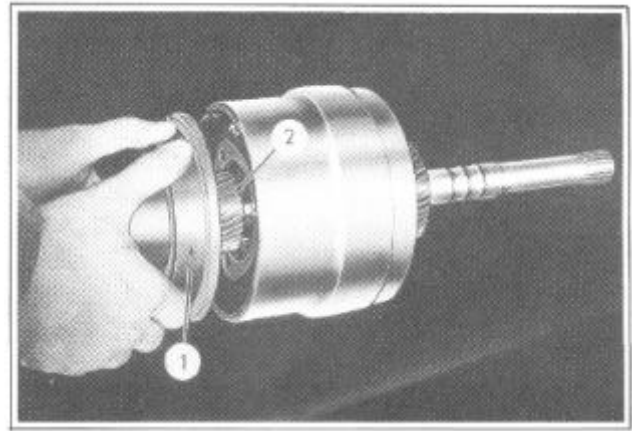

FIGURE 106
16. Remove the two dowels (1) out of the slots of the low brake drum plate (3).
17. Remove the low brake drum plate (1) and the rear sun gear (2) as an assembly, Figure 106.